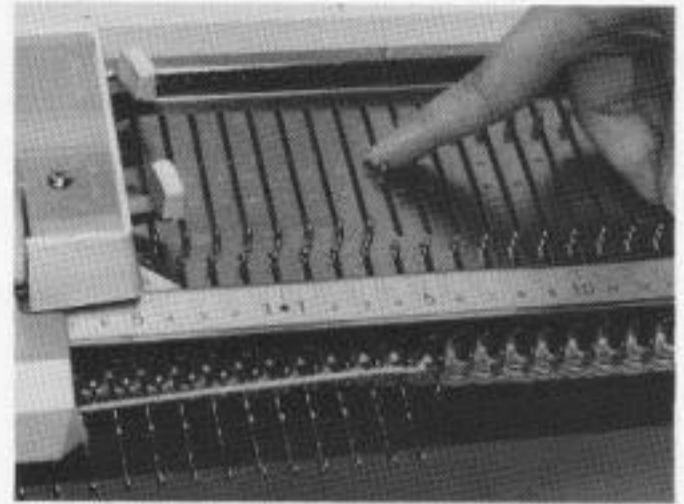

Fig.60
- *In order to avoid making a hole, push forward into position (E) the inside end needle in position (B), nearest the needles in position (E), as shown in Fig.60.
- *Push forward into position (E) the inside end needle in position (E), as shown in Fig.60.